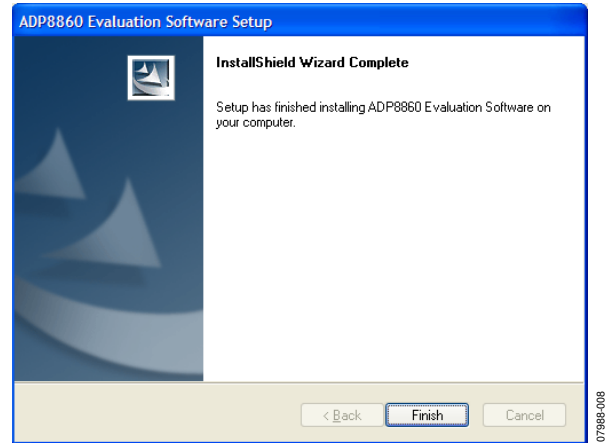

Figure 7. InstallShield Wizard Complete
6. Click **Finish** to complete the installation (see Figure 7).